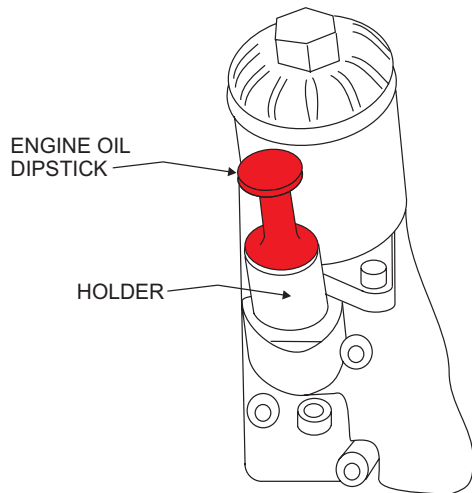

Figure 3. Dipstick Location
2. Pull the engine oil dipstick (Figure 3) from its holder.
4. If engine oil is low, fill engine crankcase with lubricating oil through filler hole (Figure 3), but do not overfill.